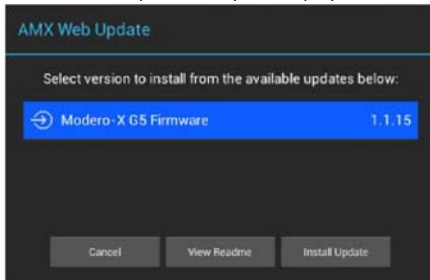

FIG. 122 AMX Web Update - Available updates
3. The web update utility will display the available update versions (FIG. 122):